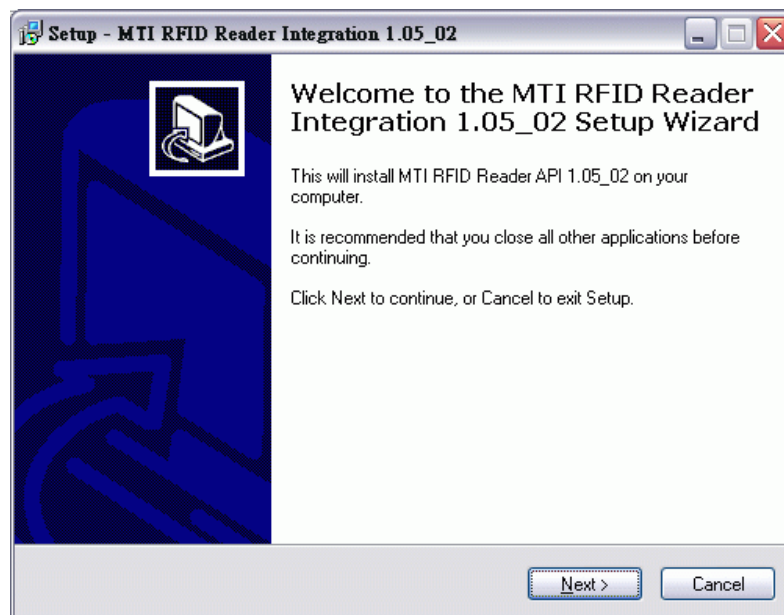

Fig. 2 Start the setup wizard.
**Step 1:** Run 'MTI\_RFID\_Integration\_setup\_1.05\_02.exe' to setup the program on your Windows. Please click “Next” button to continue the setup wizard, shown in Fig. 2